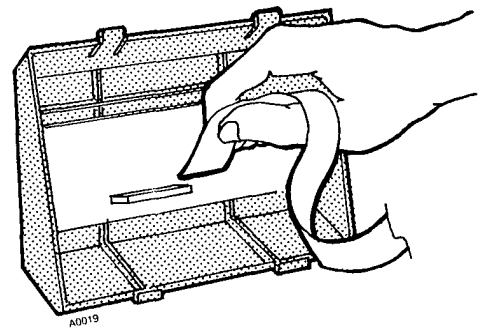

Figure 5 UNPLUGGING RIBBON CORD, EK-616
- Unplug ribbon from SPDU-6A ( Figure 5 ).